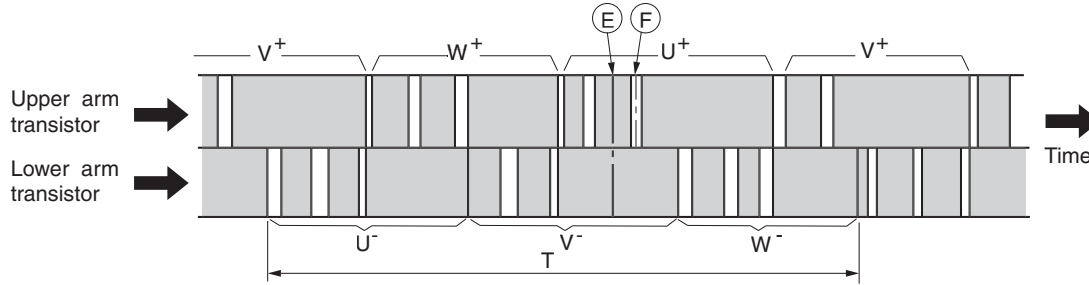

Fig. 7-2 Switching order of power module
The switching order is as shown in Fig. 7-2.
Upper arm transistor is controlled to ON/OFF by 2.5kHz-5kHz chopper signal. Rotation speed of the compressor is proportional to duty ratio (ON time/ ON time + OFF time) of this chopper signal. Time T in Fig. 7-2 shows the switching period, and relation with rotation speed (N) of the compressor is shown by formula below;